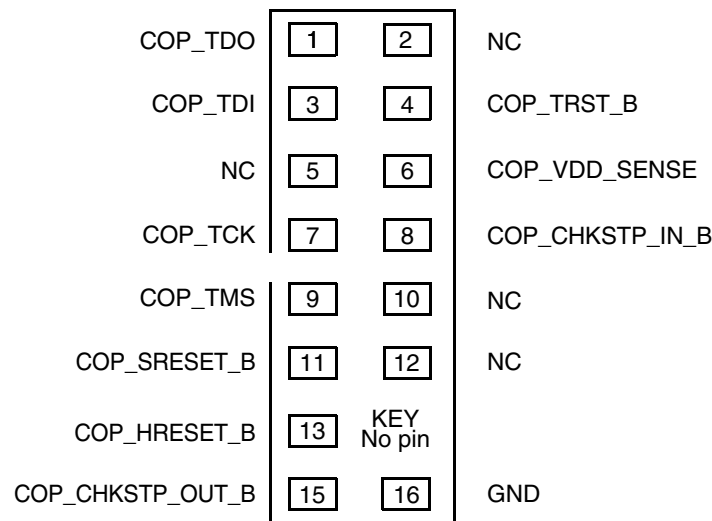
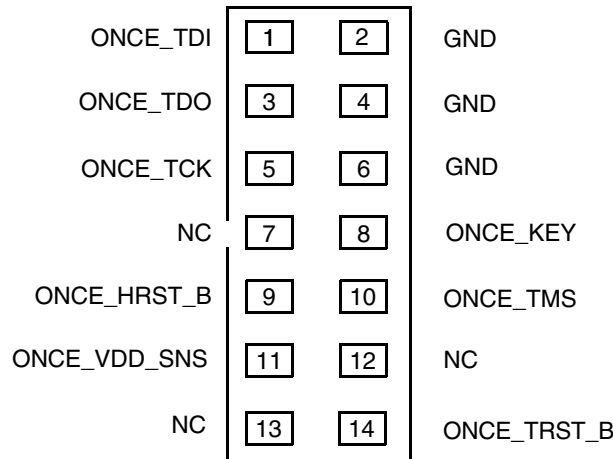

Figure 54. COP Connector Physical Pinout
Figure 55. ONCE Connector Physical Pinout
Correct operation of the JTAG interface requires configuration of a group of system control pins as demonstrated in Figure 54. Care must be taken to ensure that these pins are maintained at a valid deasserted state under normal operating conditions, because most have asynchronous behavior, and spurious assertion gives unpredictable results.
The COP function of the processor allow a remote computer system (typically, a PC with dedicated hardware and debugging software) to access and control the internal operations of the processor. The arrangement shown in Figure 54 and Figure 55 allows the COP/ONCE port to independently assert HRESET_B or TRST, while ensuring that the target can drive HRESET_B as well.
The COP interface has a standard header for connection to the target system. The 16-pin PA COP connector is shown in Figure 54.
The ONCE interface also has a standard header for connection to the target system. The 14-pin DSP ONCE connector is shown in Figure 55.
- TRST_B should be tied to HRESET_B through a 0 kΩ isolation resistor so that it is asserted when the system reset signal (HRESET_B) is asserted, ensuring that the JTAG scan chain is initialized during the power-on reset flow. Freescale recommends that the COP header be designed into the system as shown in Figure 54. If this is not possible, the isolation resistor allows future access to TRST_B in case a JTAG interface may need to be wired onto the system in future debug situations.